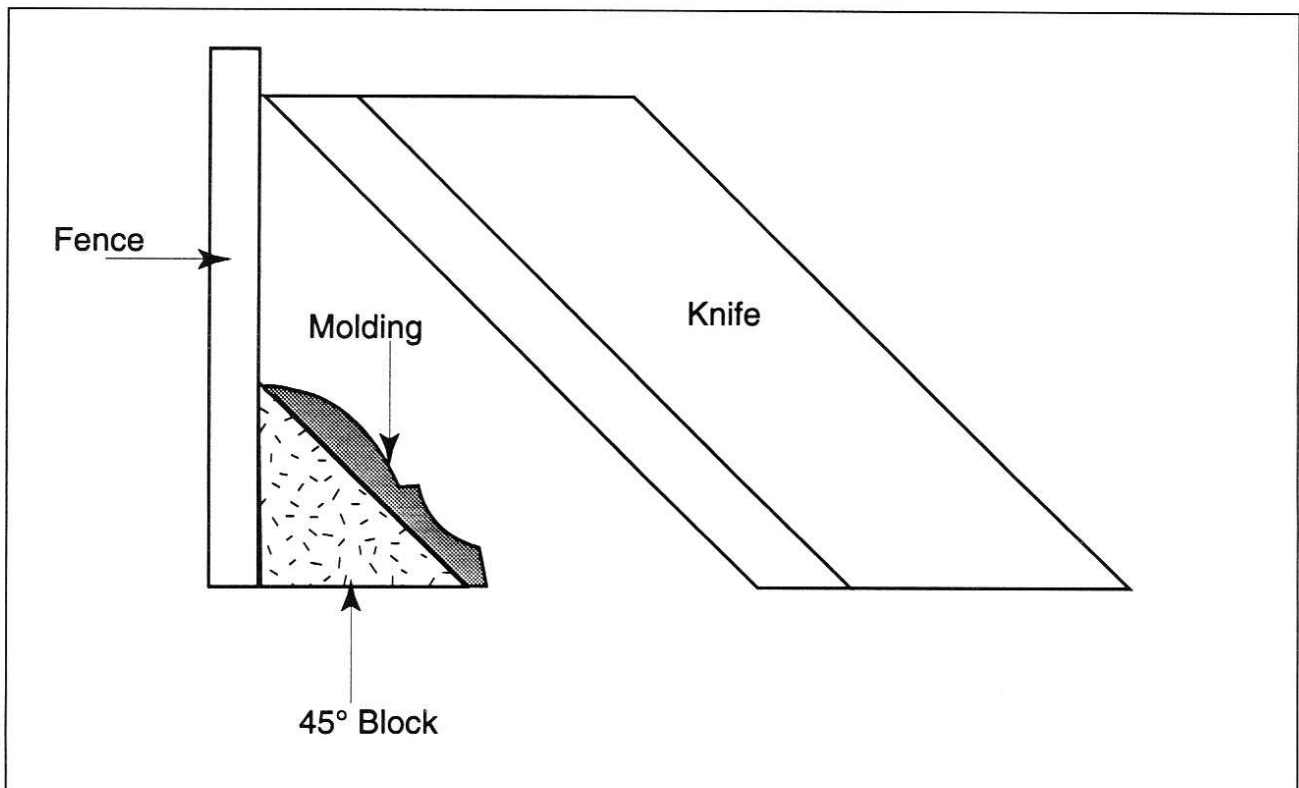

Figure 2
9. You can achieve compound miters by placing a 45° block against the fence and resting the workpiece against the block as shown in Figure 2.